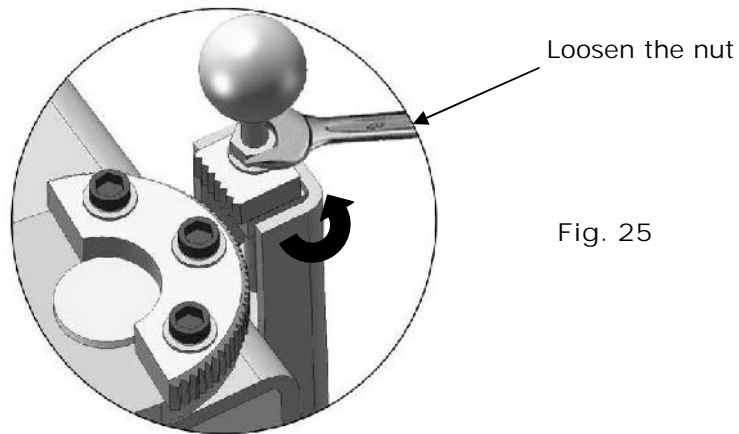

Fig. 25
2. Lowering the carriages down to the lowest position, then use the 17MM# wrench to loosen the nut **(See Figure 25)**